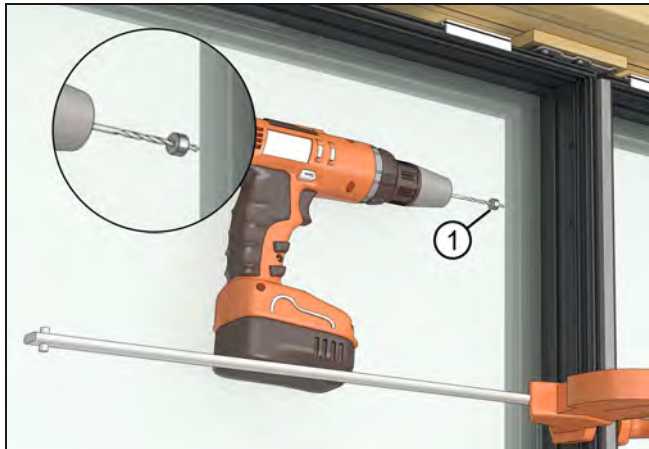

Figure 65
30. Using a drill with a stop collar use the installation holes as a guide and bore into the steel with a #23 drill bit. Note the depth of the stop collar on Figure 65 for different products.